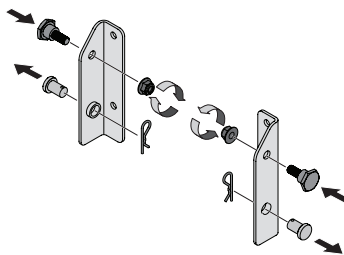

Figure 2
1. If not already installed by the factory, install a shoulder bolt from the hardware pack on each bracket, securing them with flange lock nuts also included in the LT-5 Bracket Assembly (689-00086A) hardware pack. Refer to Figure 2.
2. If already installed in the brackets, remove the clevis pins and clips, retain for later instructions. Refer to Figure 2.
2. Replace clevis pins and cotter pins removed in Mounting LT-5 Bracket Assembly section. See Figure 2.